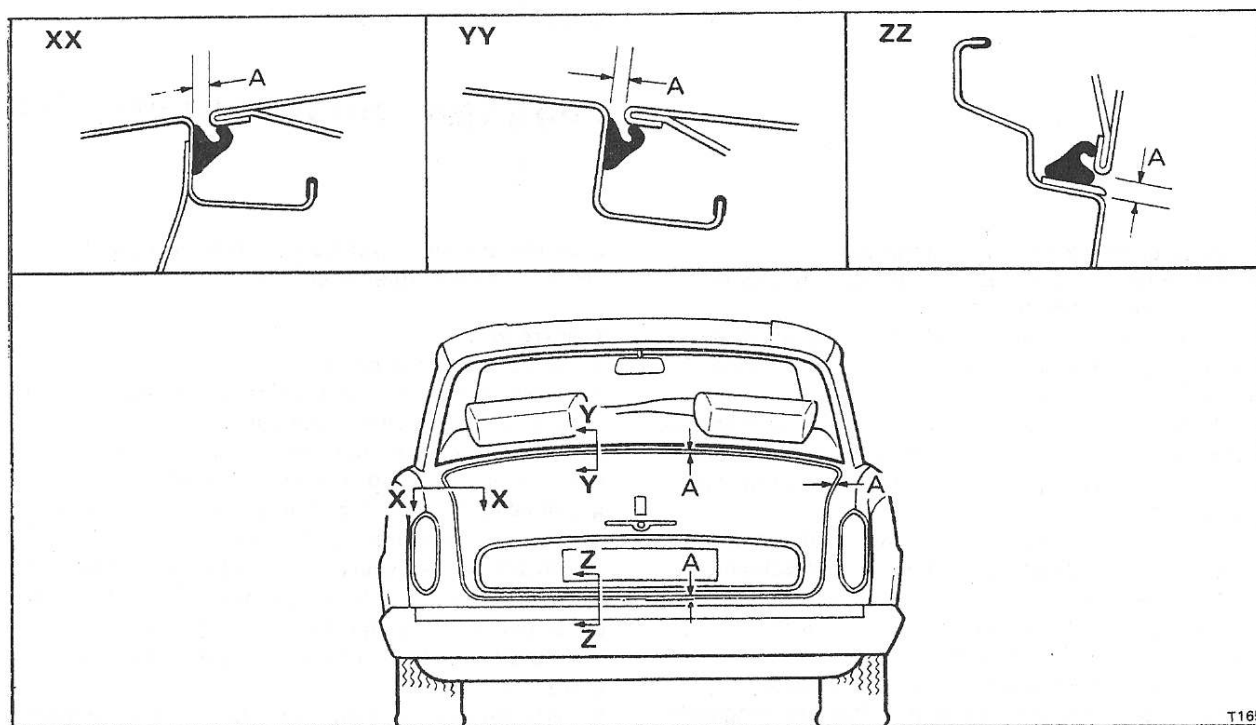

Fig. S29 Luggage compartment lid clearances (Silver Shadow II, Bentley T2 and Silver Wraith II)
2. Prior to fitting the hinge trim covers or carpet trim, check the lid to body clearances as shown in Figures S29, S30 and S31. If necessary, slacken the six setscrews and move the lid until the clearances are correct then tighten the setscrews.
1. Before tightening the setscrews securing the lid to the hinges, the lid must be set in relation to the body (see Figs. S29, S30 and S31).